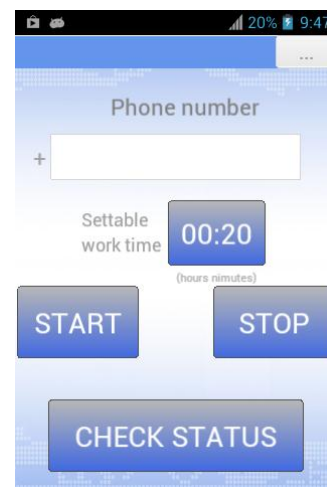

Fig.6.8 – appendix screen*
* Appearance of the appendix can differ from presented in fig. 6.8.